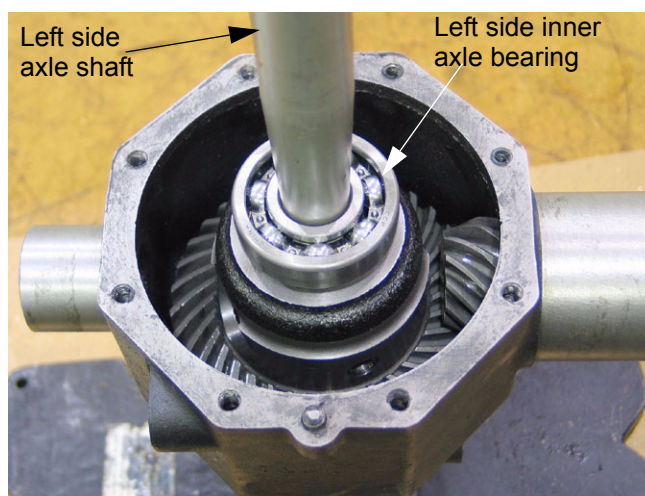

Figure 9.58
- 9.58. Position the left inner axle bearing, and install the left axle through the bearings and shims. See Figure 9.58.